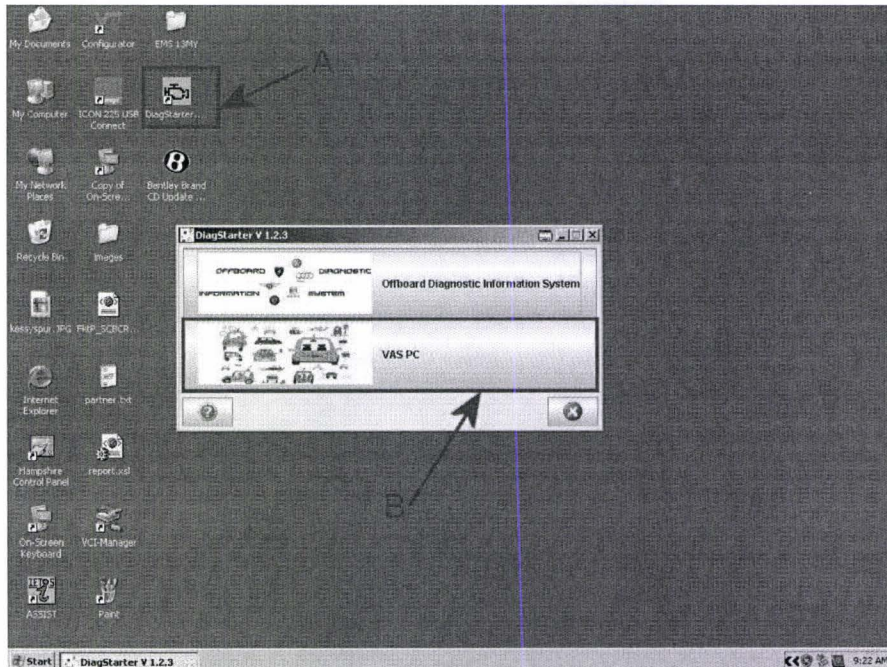

Figure 5
3. From the Desktop select the Diagstarter icon (Figure 5 Point A), ensure the Offboard Diagnostic Information System Service is completely shut down.
- Select VAS PC (Figure 5 Point B)